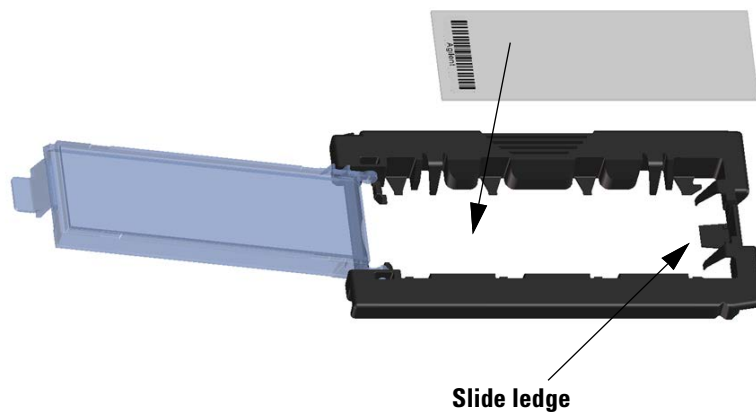

Figure 7 Inserting slide into the slide holder
- c** Carefully place the end of the slide without the barcode label onto the slide ledge. See Figure 7.